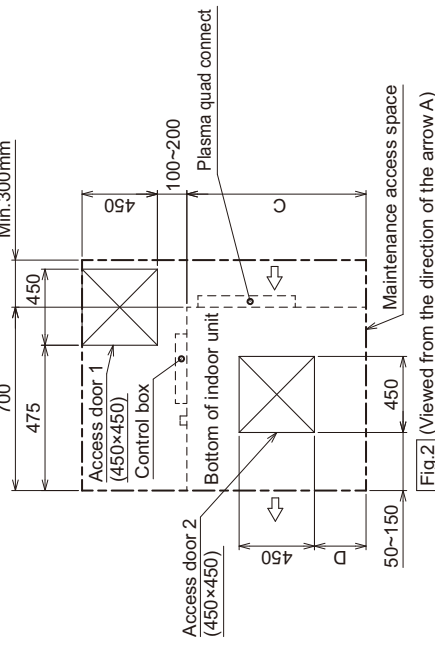

Fig.2 (Viewed from the direction of the arrow A)
- Create access door 1 and 2 (450x450mm each) as shown in Fig.2.
(2) When a space of less than 300mm is available below the unit between the unit and the ceiling.